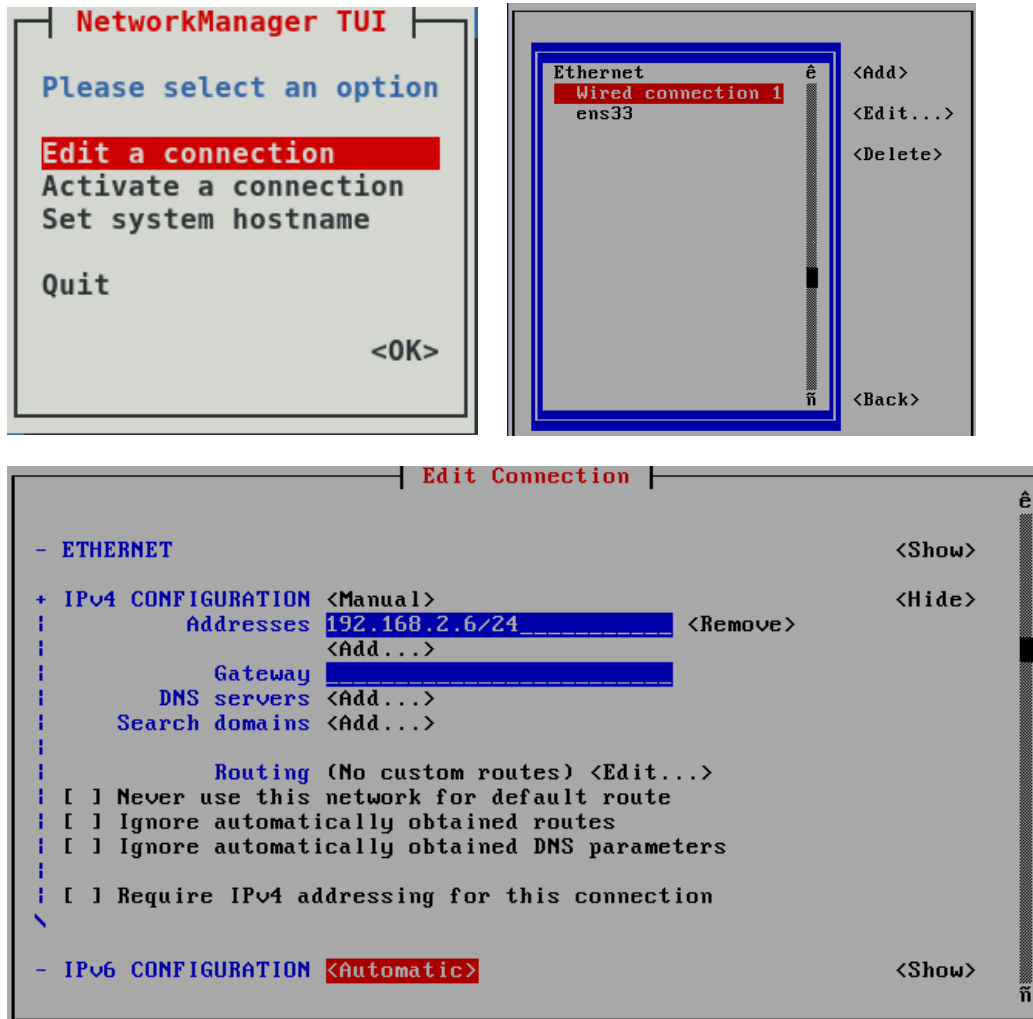

Figure 22. Edit Connection
- g) All operations are followed sequentially as shown in the Figure 22. 'IPv4 Configuration' is set manually. If there is one-to-one connection with the Control Module, only the IP Address is given. Prefix must be entered as Subnet Mask (see APP 6). If not, the gateway information should be given with the IP address. All changes are saved with 'Ok' button (IP Address and Gateway must be given according to customer request).